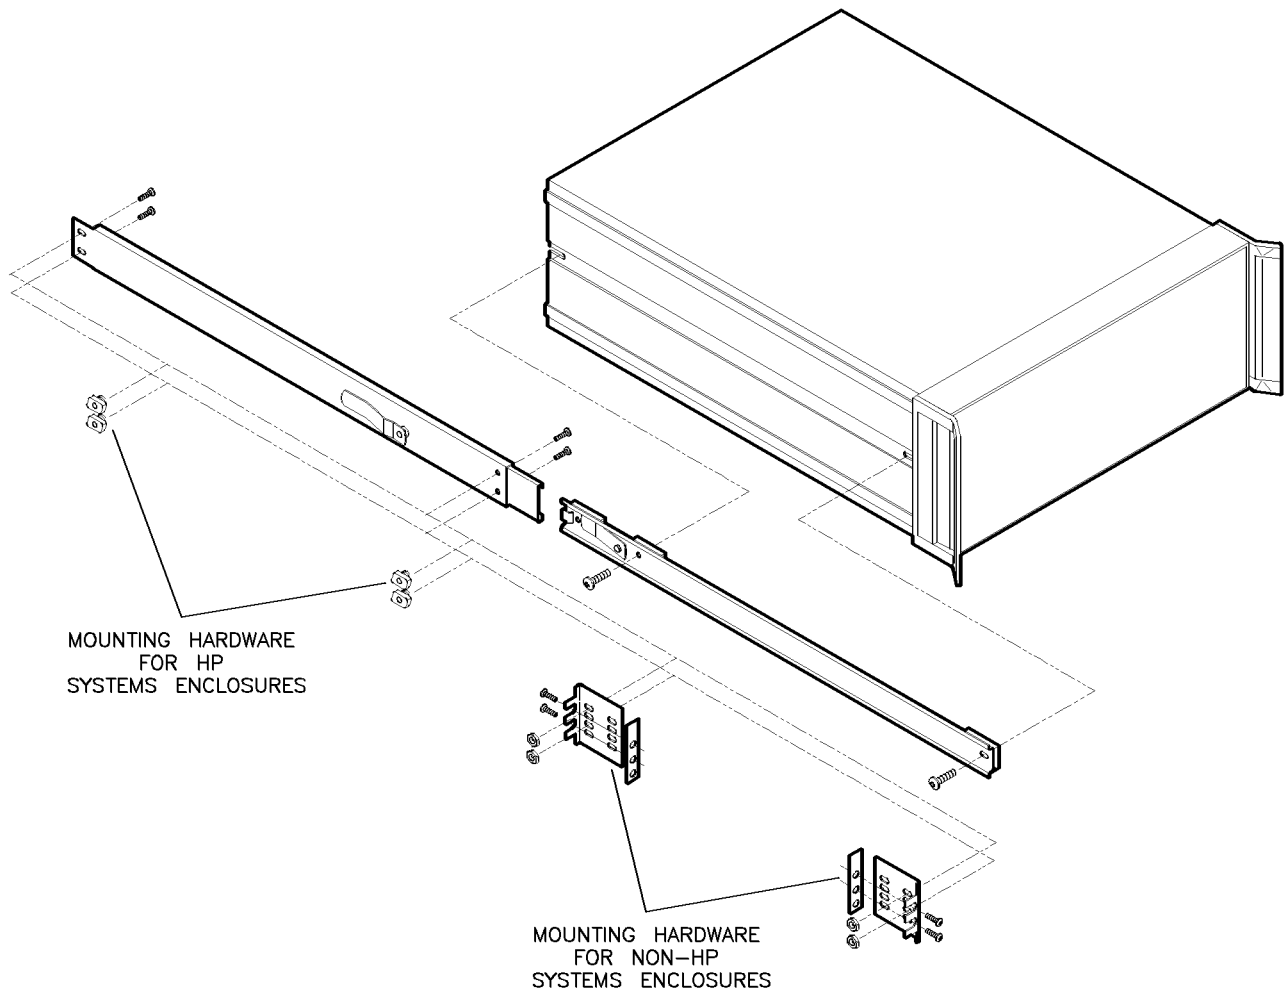

Figure 3-4. Chassis Slide Kit
6. Refer to Figure 3-4. Remove the inner slide assemblies from the outer slide assemblies.